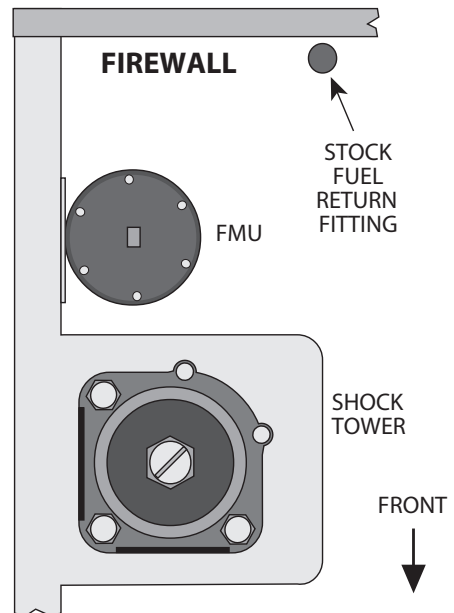

Fig. 4-a
- Connect the FMU input hose from the fitting on the side of the FMU to the return line coming from the fuel rail regulator fitting as shown in Figs. 4-b, 4-c on the following page.